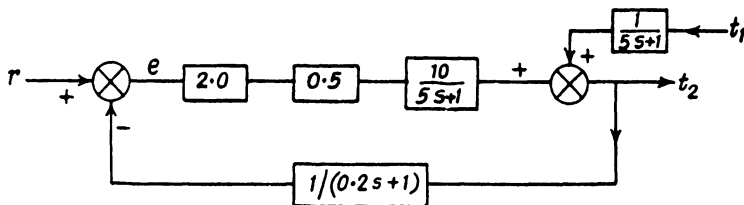

Fig. 1.14
**1.31. Problem :** For the block diagram below, calculate the transfer functions of, (a)  $t_1$  to  $t_2$  (b)  $r$  to  $t_2$  as shown in Fig. 1.14.